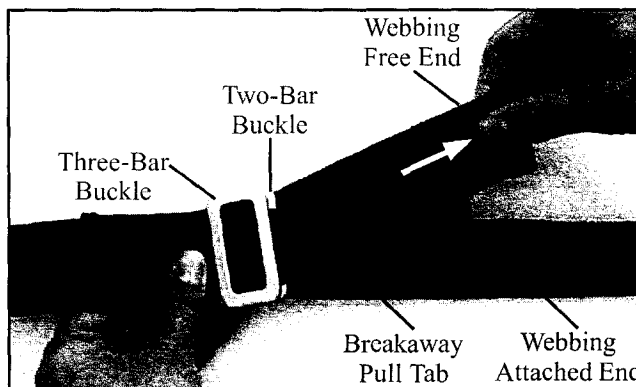

Figure 13 -Seating the Three-Bar Buckle
2. Pull slightly on the free end of the webbing to firmly seat the three-bar buckle on top of the two-bar buckle (Figure 13).